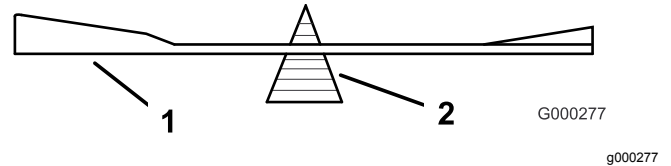

**Figure 111**
1. Use a file to sharpen the cutting edge at both ends of the blade (Figure 111).